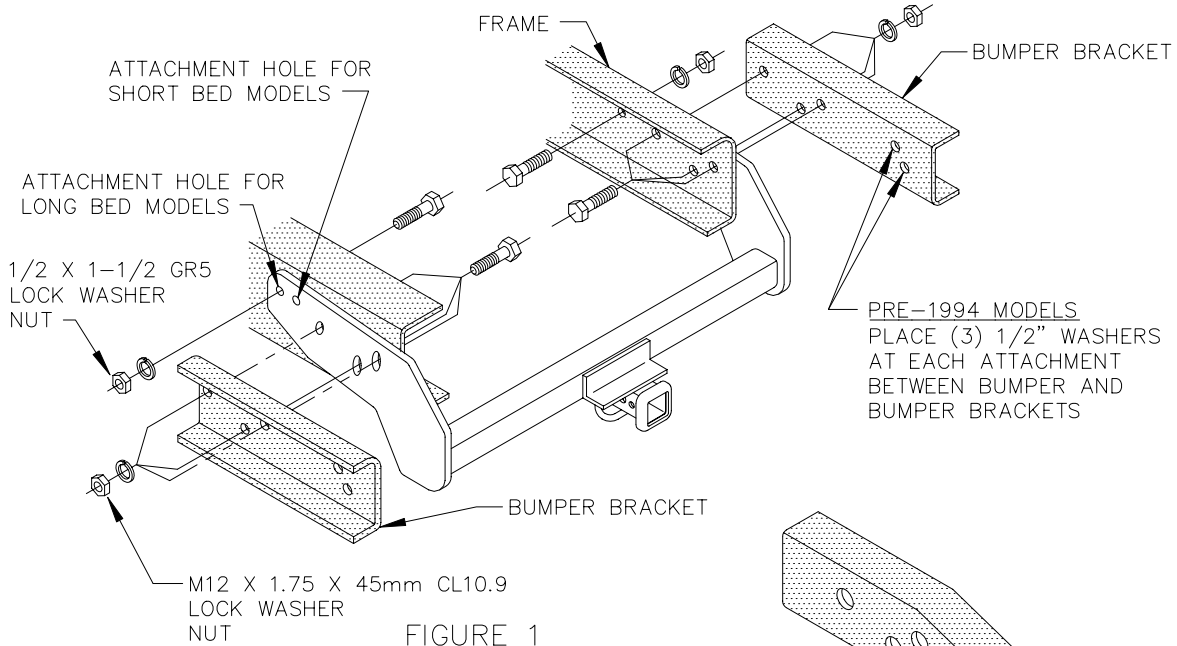

FIGURE 1
5. POSITION RECEIVER ON FRAME AND LOOSELY RE-INSTALL BUMPER BRACKETS USING (3) M12 BOLTS AND FASTENERS PER SIDE. RECEIVER BRACKETS ARE SANDWICHED BETWEEN BUMPER BRACKETS AND FRAME.
6. PRE-1994 MODELS: REINSTALL BUMPER ON BUMPER BRACKETS WITH ORIGINAL BOLTS, USING THREE (3) 1/2" WASHERS AT EACH BOLT LOCATION AS SPACERS BETWEEN BRACKETS AND BUMPER. SEE FIG. 1.